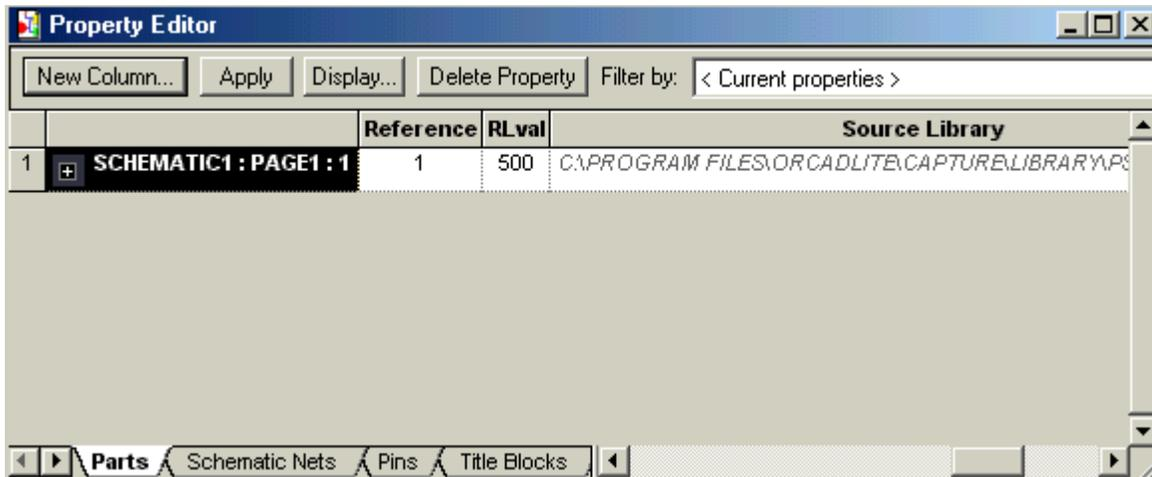

Figure 3.4.4: Property Editor window for the PARAM part, showing the newly created RLval column.
- You will notice that the new column Rlval has been created. Below the Rlval enter the initial value for the resistor: lets make it 500, as shown in Figure 3.4.4 below.